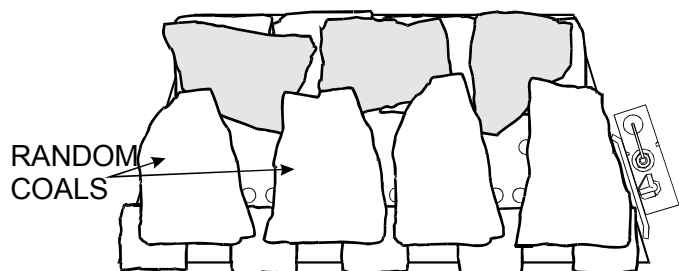

Figure 22
3. Now place more **random coals** bridging from the front, as shown in **Figure 22**.